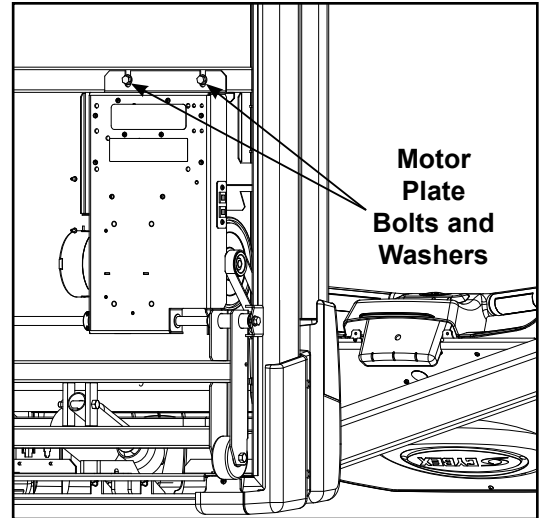

Figure 18
- B. Using a 1/2" open end wrench, remove the two motor plate bolts. See Figure 18.